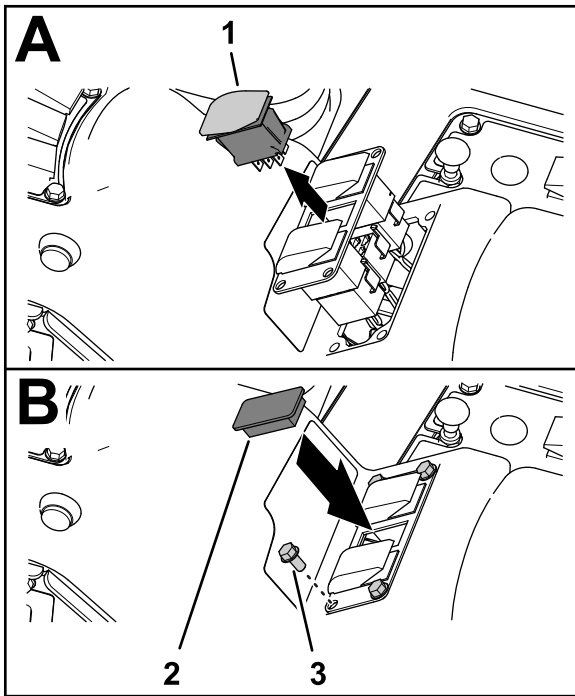

Figure 34
2. Squeeze the lock tabs of the rate-control switch together and push up the switch out of the 3-switch panel (Figure 34).
5. Assemble the 3-switch panel to the control console (Figure 34) with the 4 flange head screws (1/4 x 1/2 inch) that you removed in step 1.